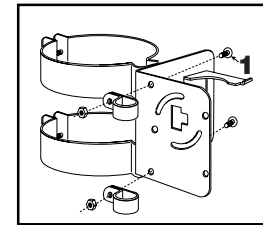

Fig. 7
3. Attach 2 small clamps to bracket as shown using two #10 x 0.5 inch (M5x0.8 x 12.7) screws and nuts (Item 1 Fig. 7).